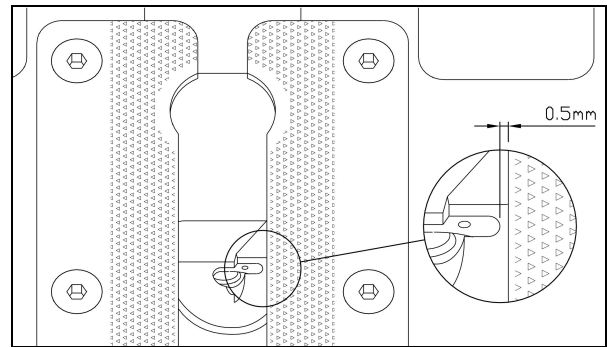

Fig 1
3.  Turn off the motor. Manually turn the machine through the sewing cycle and check the clearance between the edge of the mat and the throat plate. The distance should be 0.5mm throughout the movement of the head, as in Fig 1. Remove the clamp plates and cut the mats with a file to obtain the clearance.